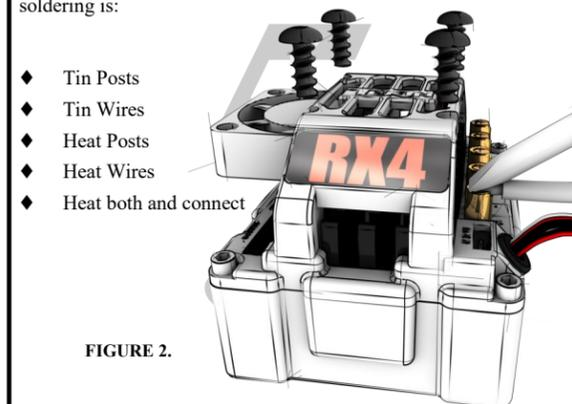

FIGURE 2.
Placing the ESC in a vise (gently) provides a stable work area to do a quality job (Figure 2). The order for proper soldering is:
1) Wiring: Connect A, B and C wires from the motor to the A, B and C posts on the ESC, verify this is correct for proper function. Determine whether you would prefer to use connectors from ESC to motor. Refer to the instructions in the Soldering section of this manual for more information and refer to Figures 2 & 4.